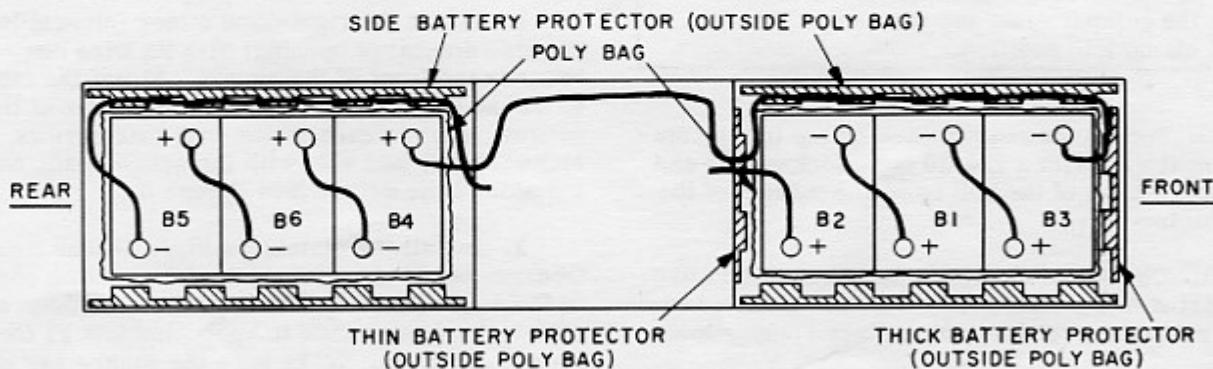

Figure 6
4. Place one of the long vacuum-formed battery protectors along each side of the poly bag (outside) so the corrugations will face the battery walls. (See Figure 6.)
5. Place the short sections of battery protectors in similar fashion at the ends of the compartment with the thicker one at the front as shown in Figure 6.
6. Carefully set three batteries in the bag as shown in Figure 6 observing polarity markings. Make sure the sides of the bag remain above the top surface of the batteries in equal amounts. (It
7. Connect the battery cables in accordance with Figure 6. Observe clamp polarity markings. Coat the terminals, after connections are made, with a thin film of Battery Terminal Protective Grease, AP31. Make sure all surfaces are coated!
6. Place one of the long vacuum-formed battery protectors along each side of the poly bag (outside) so its corrugations will face the battery walls. (See Figure 6.)
7. Carefully set the batteries in the bag as shown in Figure 6 so that the sides of the bag remain above the top battery surface in equal amounts and all wires are accessible.
8. Connect the battery cables and wires in accordance with Figure 6. Coat the terminals after connections are made with a thin film of Battery Terminal Protective Grease, AP31. Make sure all surfaces are coated!